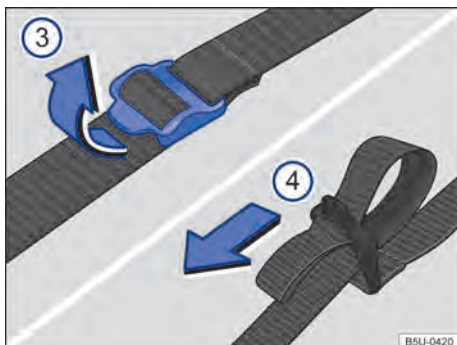

Fig. 161 Vehicle toolkit fastening straps.
- Pull the fastening strap buckles in the direction of the arrow → Fig. 161 ③.
- Firmly pull the straps ① in the direction of the arrow → Fig. 161 ④ to secure the toolkit.